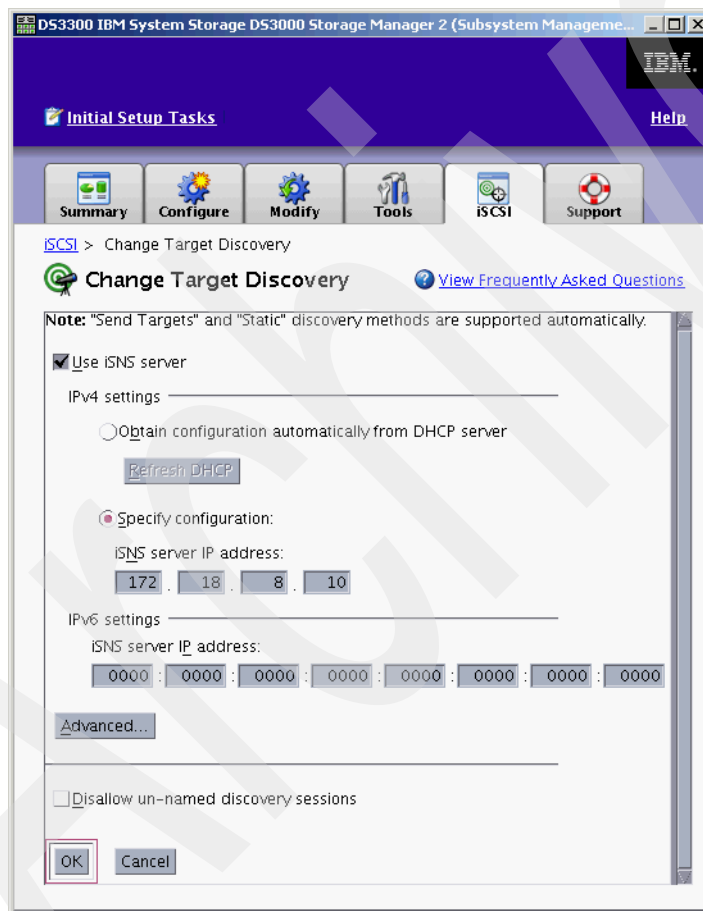

Figure 13-10 Storage Manager - Enable iSNS server
2. Select **Use iSNS server**, as shown in Figure 13-10.